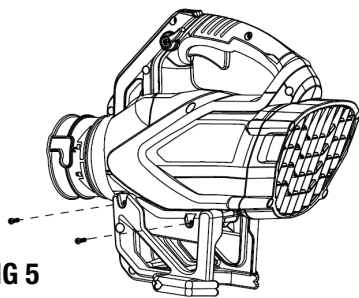

FIG 5
2. Tighten four screws included to secure the battery cartridge in place. See Fig 5.